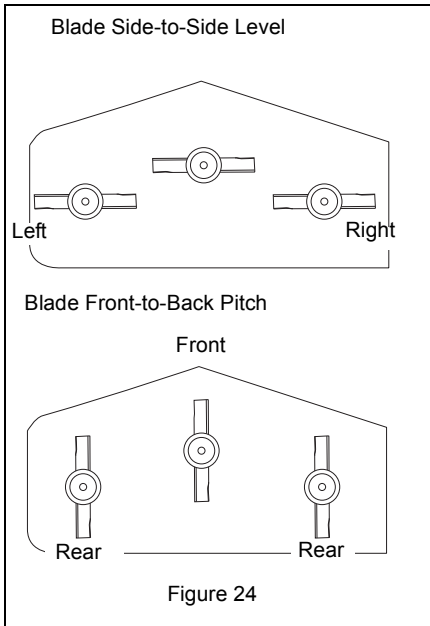
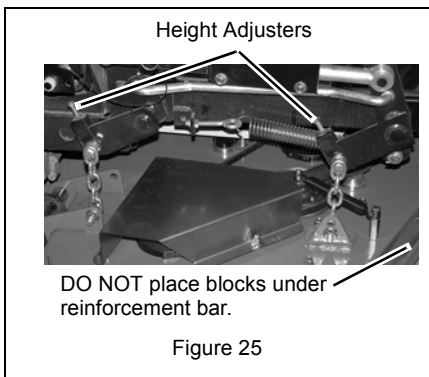

Figure 24
Figure 25
5. Measure the distance between the ground and cutting edge of the blade on the left blade (Left position in Figure 24) and on the right blade (Right position in Figure 24). Distances should be within 3/16 in. (4.7 mm). If they are not, raise the low side of the deck using the height adjusters on the deck lift brackets (see Figure 25).
7. Turn the blades so the blade ends point front to back as shown in Figure 24.
8. Measure the distance between the ground and the cutting edge of the middle blade at the front of the deck (Front position in Figure 24) and between the ground the cutting edge of the left and right blades at the rear of the deck (Rear position in Figure 24).
9. The cutting edge at the front of the deck (Front position in Figure 24) should be 1/8 in. (3.18 mm) lower than the cutting edges at the rear of the deck (Rear position in Figure 24).
10. If measurements are out of range, raise the low side of the deck using the height adjusters on the deck lift brackets (see Figure 25). Be sure to raise the deck evenly to keep the deck level side to side.
Level and pitch the mower with the height adjusters on each deck lift bracket (Figure 25).